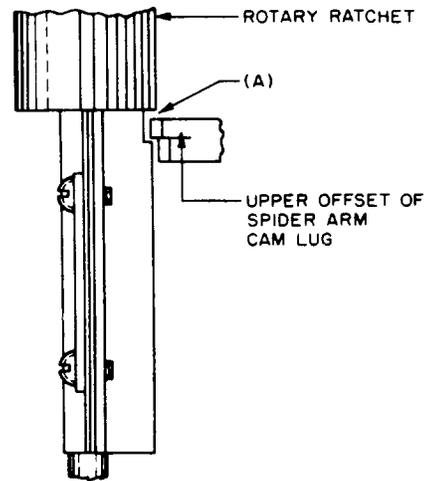

Fig. 6 — Clearance Between Rotary Ratchet and Upper Offset of Spider Arm Cam Lug
Fig. 6 (A) — With the shaft up one step and the spider arm in second position, there shall be a clearance between the upper offset of the spider arm cam lug and the rotary ratchet of 0.015 inch.